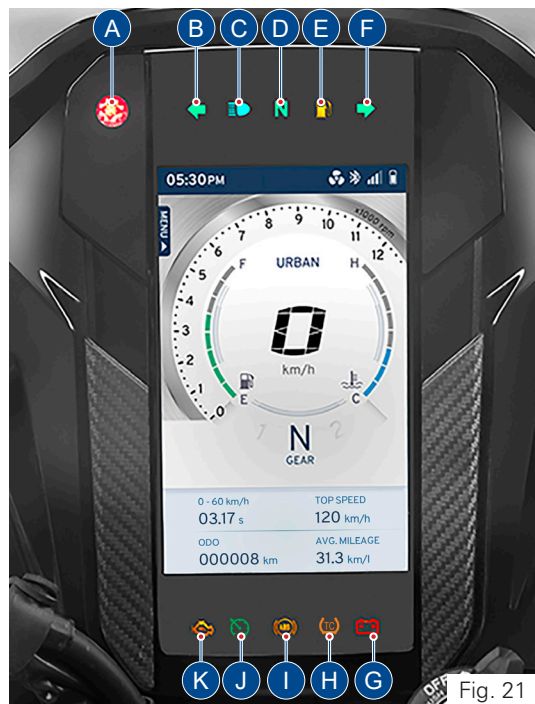

Fig. 21
1) Warning and indicator lights (ref. Fig. 21)